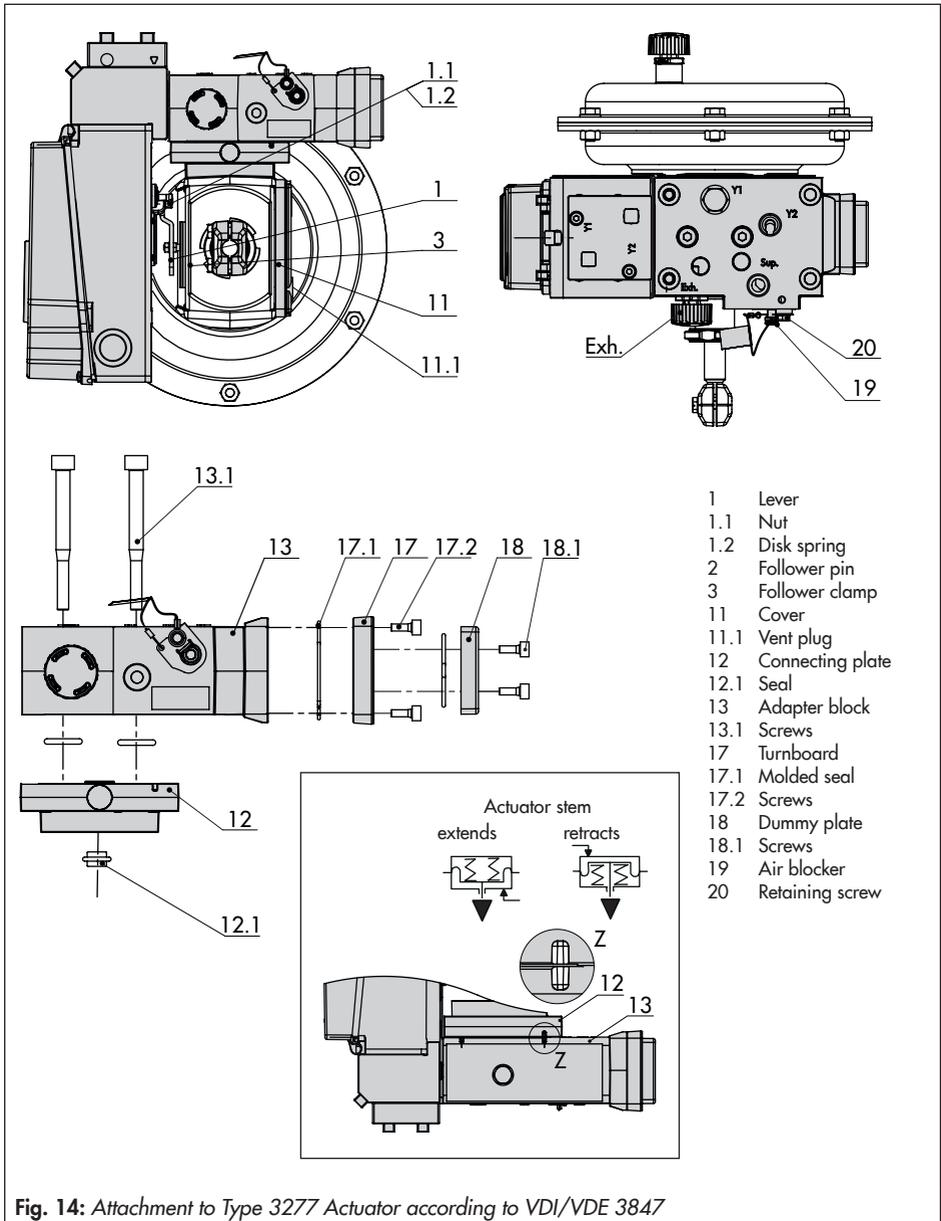

Fig. 14: Attachment to Type 3277 Actuator according to VDI/VDE 3847
Mount the positioner on the yoke as shown in Fig. 14. The signal pressure is routed to the actuator over the connecting plate (12), for actuators with fail-safe action "actuator stem extends" internally through a bore in the valve yoke and for "actuator stem retracts" through external piping.